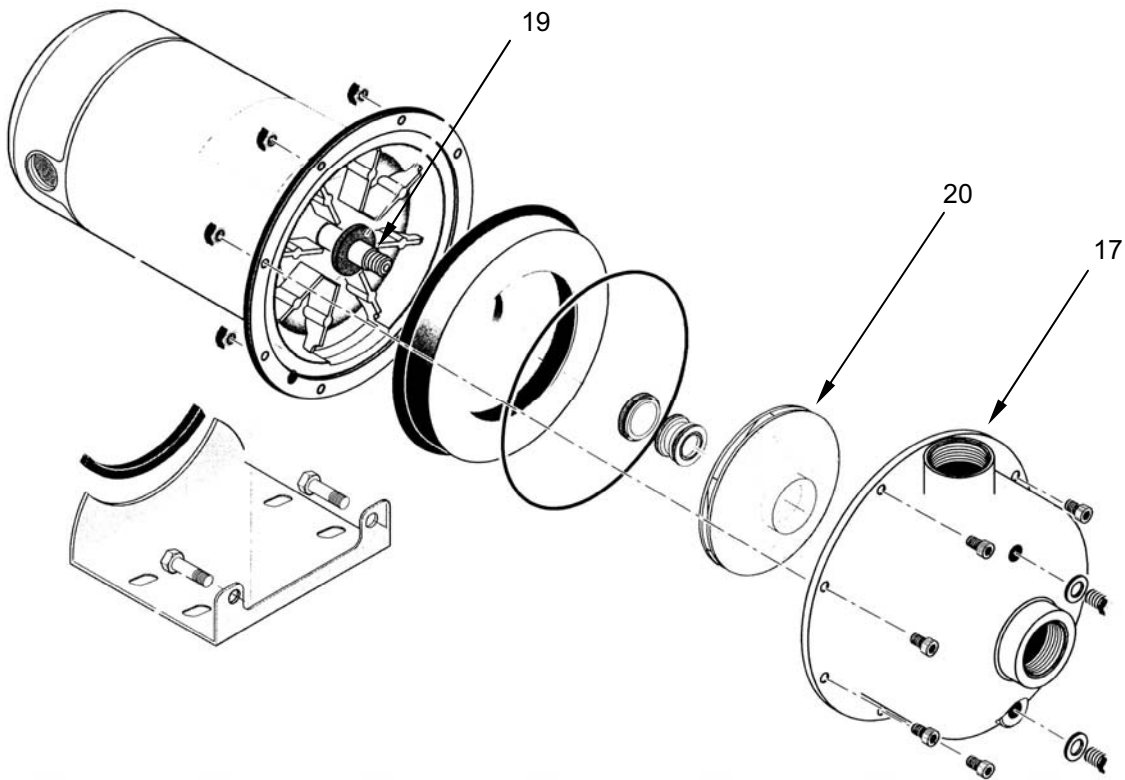

Figure 10. Replace the Pump Impellor.
11. Use a wrench to remove the screws retaining the pump casing (**Figure 10, Item 17**), and remove the pump casing.
12. Remove the impellor (**Figure 10, Item 20**) by unscrewing the impellor from the shaft (**Figure 10, Item 19**).
13. Install the replacement impellor (**Figure 10, Item 20**) and retain with screw.
14. Install the pump casing (**Figure 10, Item 17**) and retain with screws.